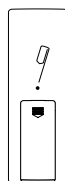

Fig. 27
- Press the **learn button** on the remote control (Fig. 27) you want to program within the 8 peep tones. The motor confirms this input with a short turn once in one direction.